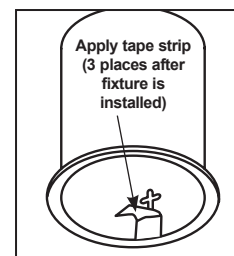

Figure 6
**Step 6.** Apply tape strips over each of the three retention clips and slots. Cover completely with the tape strips. Use the supplied strips, do not substitute with duct tape (Fig. 6).